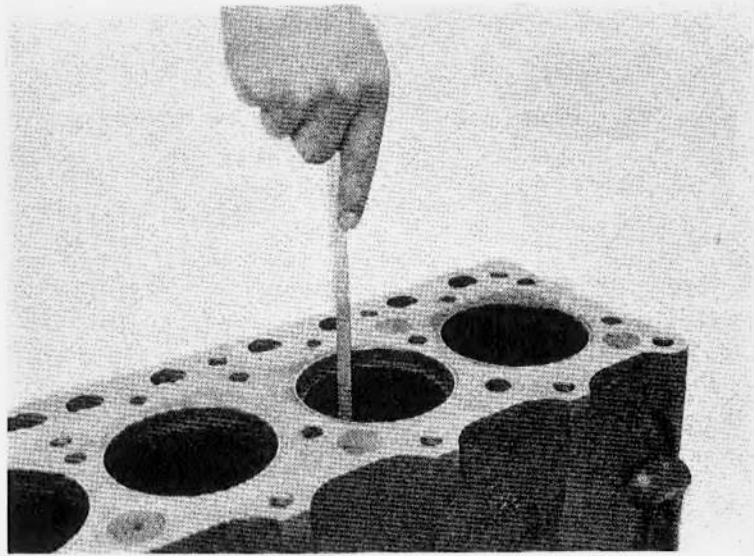

Figure 91 – Measuring Piston Ring Gap
(3) Check the space or gap between the ends of the ring with a feeler gage (Fig. 91). This gap should be from 0.15 mm to 0.45 mm on top compression and top oil rings and from 0.15 mm to 0.40 mm on second compression and second oil rings.